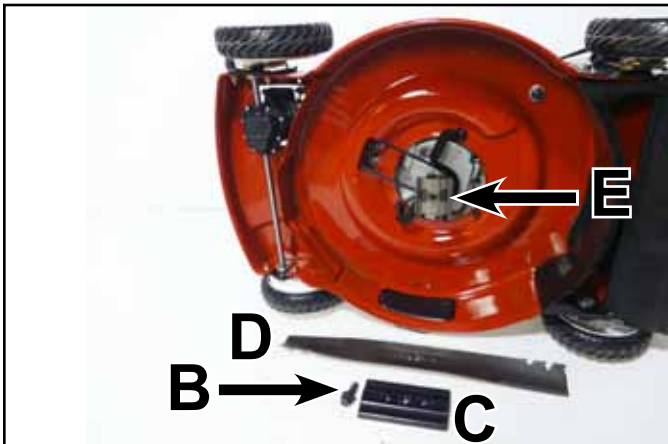

Fig. 152
- Remove blade bolt (B), blade support (C), blade (D) and blade driver (E) (Fig. 152).